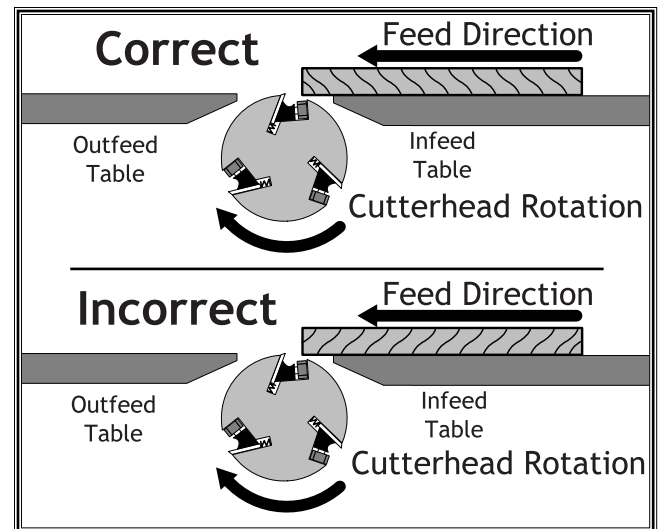

Figure 31. Correct and incorrect grain alignment to cutterhead.
- Always joint "with" the grain. Cutting "with" the grain is best described as feeding boards on the jointer so the grain points down and toward you as viewed on the edge of the workpiece (**Figure 31**).